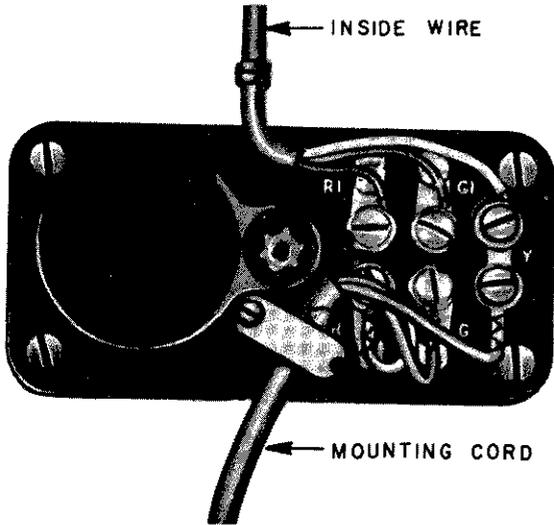

Fig. 5 - Cording Diagram, 1542A Inductor
4.02 Installation of the 1542A inductor is shown in Fig. 5. It is used as a connecting block for the telephone set cord. If used on a wall-type set, it should be located near the instrument.